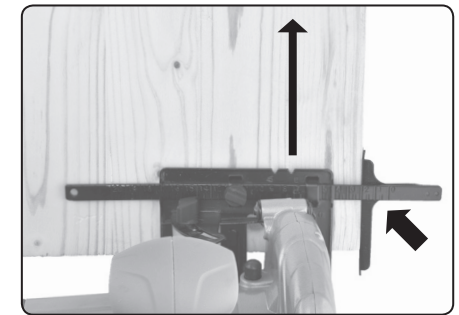

Fig. 10A
4. Allow the circular saw to reach full rotation speed and then gradually move it to the drawn cutting line with the 0° notch on the base plate for a cross cut and with the 45° notch for a bevel cut (see fig. 10A and 10B).